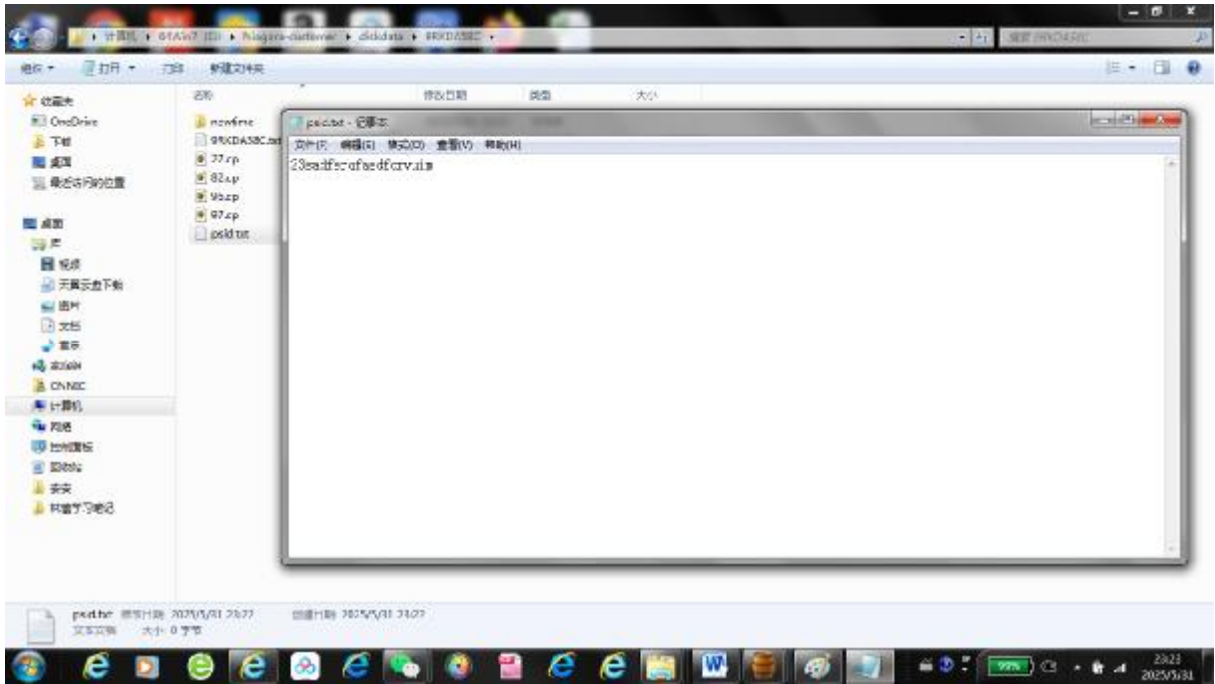

Figure 17: PSID File
2. Save the PSID as `psid.txt` in the drive's data directory (e.g., `C:\Niagara-customer\diskdata\9RKDXXXX`) (Figure 17).